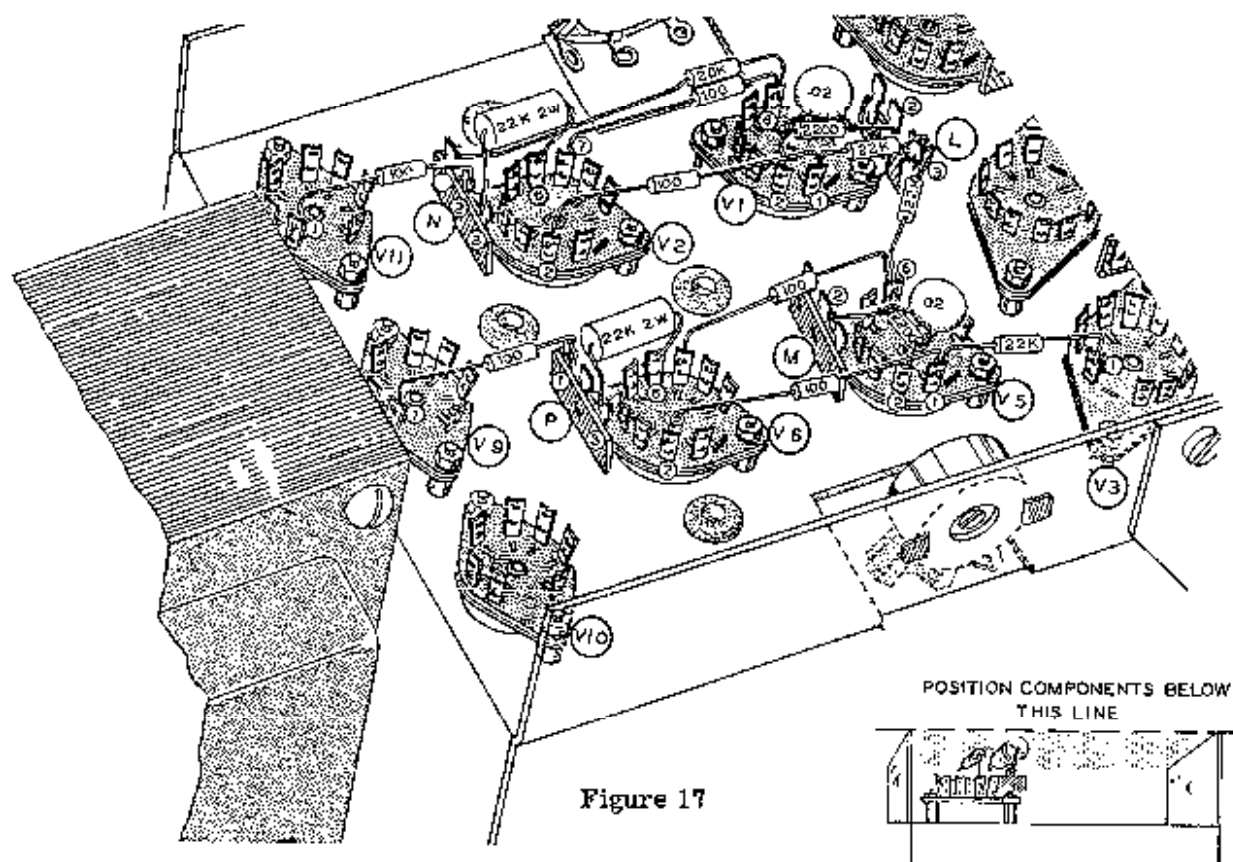

Figure 17
Refer to Figure 17 for the following steps.
**NOTE:** All resistors in Figure 17 are wired above the tube sockets, as shown in Detail 17A. This is done for the purpose of simplifying the wiring and eliminating the need for sleeving.
- ( ) R10. Connect a 20 K $\Omega$  (red-black-orange) resistor from lug 6 of tube socket V1 (NS) to lug 1 of terminal strip N (S-3). Solder the bottom hole first.